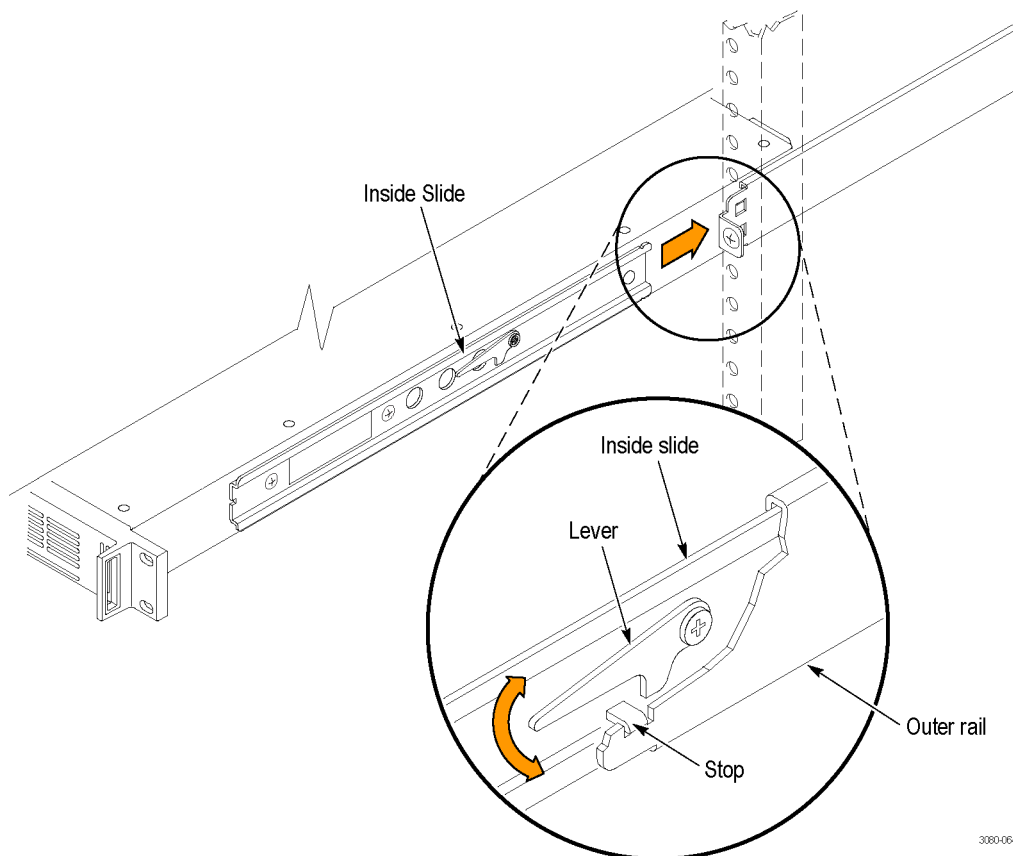

Figure 2: Installing or removing the instrument into or from the rack (Option RACK only)
1. Insert the instrument left and right slides into the ends of the rack rails while tilting the long handle part of each lever upward. See Figure 2: Installing or removing the instrument into or from the rack \(Option RACK only\) on page 7.
3. Tilt both lever handles upward simultaneously to allow them to clear the stops. See Figure 2: Installing or removing the instrument into or from the rack \(Option RACK only\) on page 7.